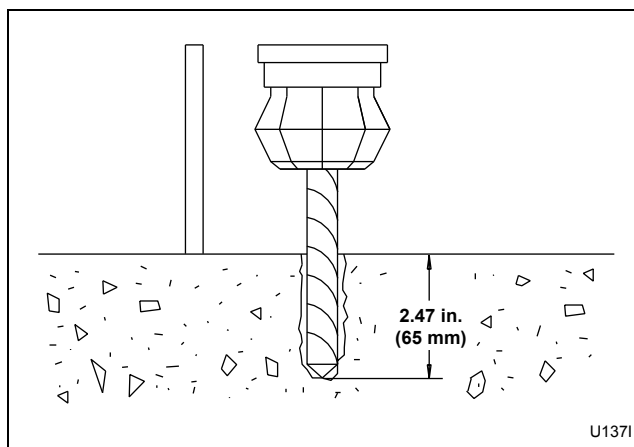

Figure 8
5. Drill the holes to the set depth. Refer to *Figure 8*.